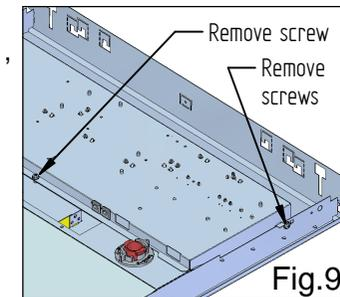

Fig.9
- On variants with gearbox, separate the gearbox from the canopy by removing the 3 or 4 screws (Fig.9) & detach the earth lead spade from the gearbox.